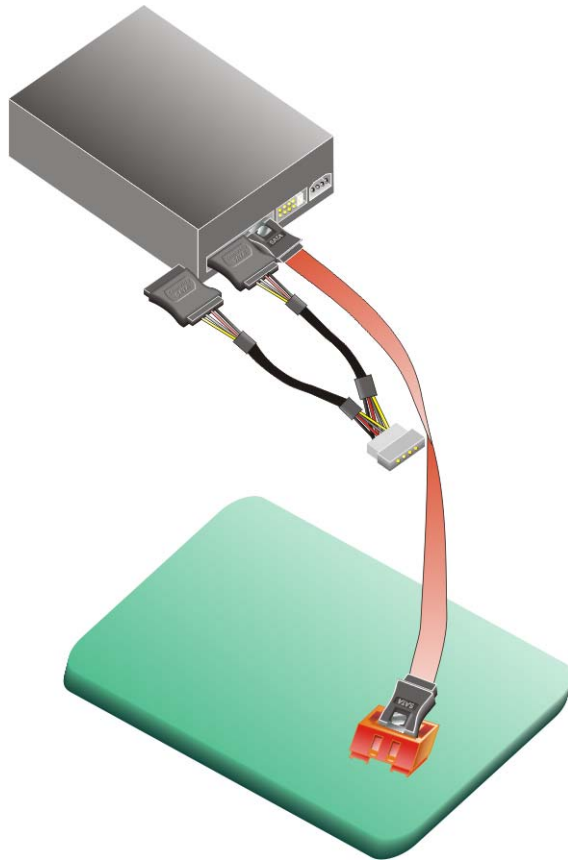

Figure 4-10: SATA Drive Connection
Step 3: Connect the connector on the other end of the cable to the connector at the back of the SATA drive (Figure 4-10).
Step 4: Connect the SATA power connector to the back of the SATA drive (Figure 4-10).